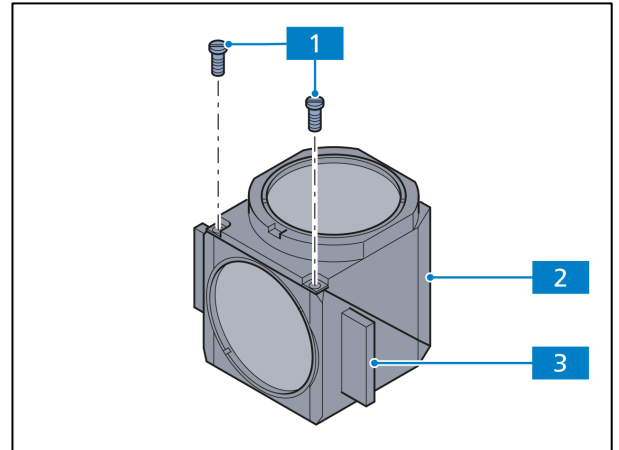

Fig. 3-43 Opening the module
- Loosen both slit screws (Fig. 3-43/1) with a screwdriver.
- Hold both parts of the reflector module (the **emission** part (Fig. 3-43/2) and the **excitation** part (Fig. 3-43/3) together, turn them against the mounting position and put them down.